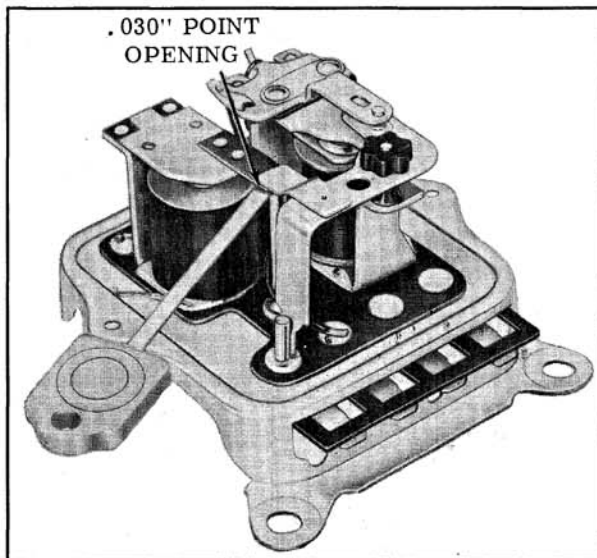

Fig. 13-22 Checking Field Relay Point Opening
5. To check point opening, insert a feeler gauge between the contact points. Clearance should be .030". (Fig. 13-22)